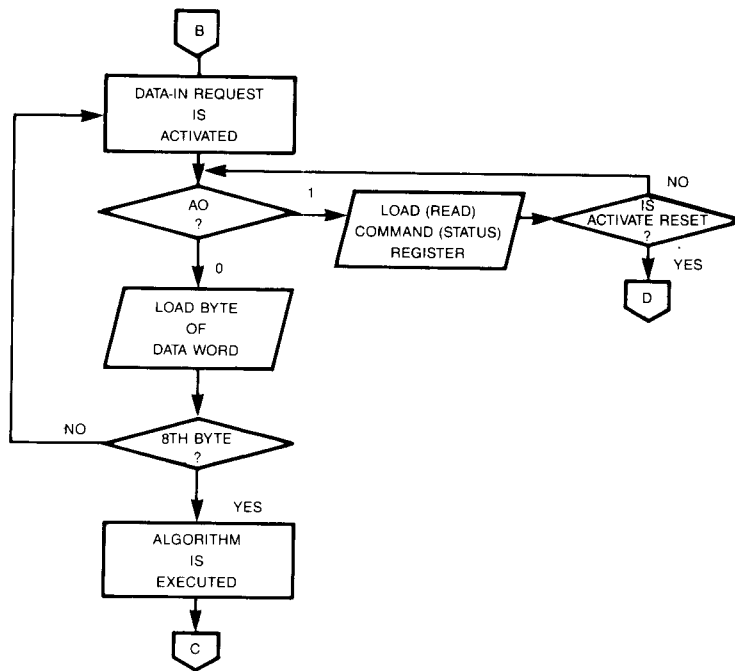

FIGURE 7. ACTIVATING DIR OUTPUT
After loading the eighth (last) byte of the KEY WORD into the KEY REGISTER, the WD2001/2002 will set Bit 6 (DIR, DATA-IN REQUEST) in the COMMAND/STATUS REGISTER and activate the DATA-IN REQUEST (DIR) output (see Figure 7). The 64-bit DATA WORD must then be loaded into the DATA REGISTER which will be loaded in the same manner as the KEY REGISTER by eight successive activations of DATA-IN REQUEST (DIR) output, WRITE ENABLE (WE) input, and DATA-IN ACKNOWLEDGE (DIA) output.